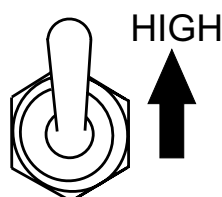

Figure 26. Engine Speed Switch (HIGH)
1. Place **Engine Speed Switch** circuit breaker (Figure 26) in the **HIGH** position.